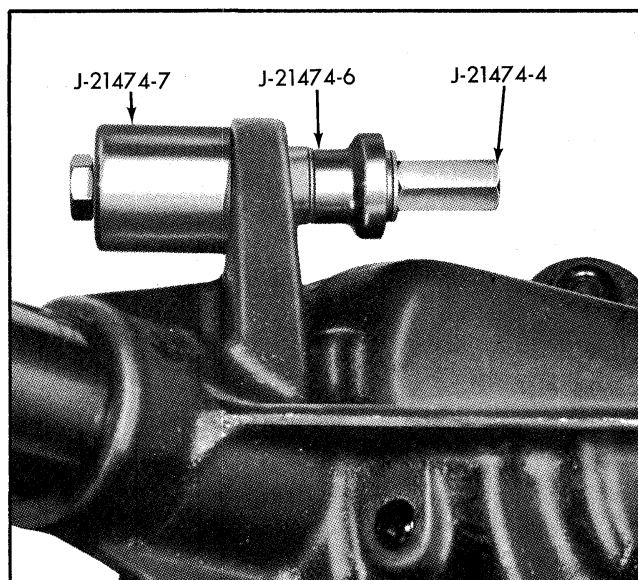

Fig. 3-30 Removing Rear Upper Control Arm Rear Bushing
2. Remove bushing from axle housing using tool J-21474 as shown in Fig. 3-30.